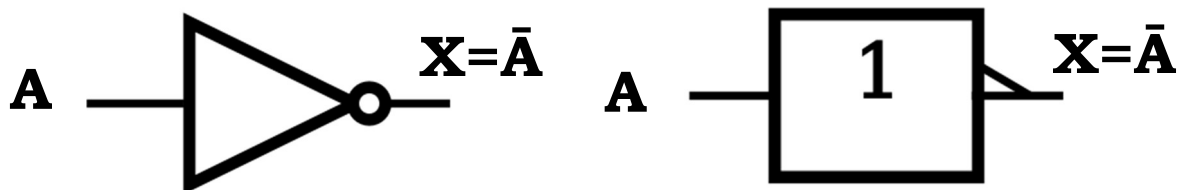

Fig 1.1 (a) Distinctive symbol of NOT gate
The NOT gate is an electronic circuit that produces an inverted version of input logic at its output. It is also known as inverter. If the input variable is A, the inverted output is known as NOT A. alternatively if the input is logic low (0), the output will be logic high (1) and if the input is logic high (1), the output will be logic low (0). NOT gate has only one input and one output, as shown in Fig 1.1 (a & b):